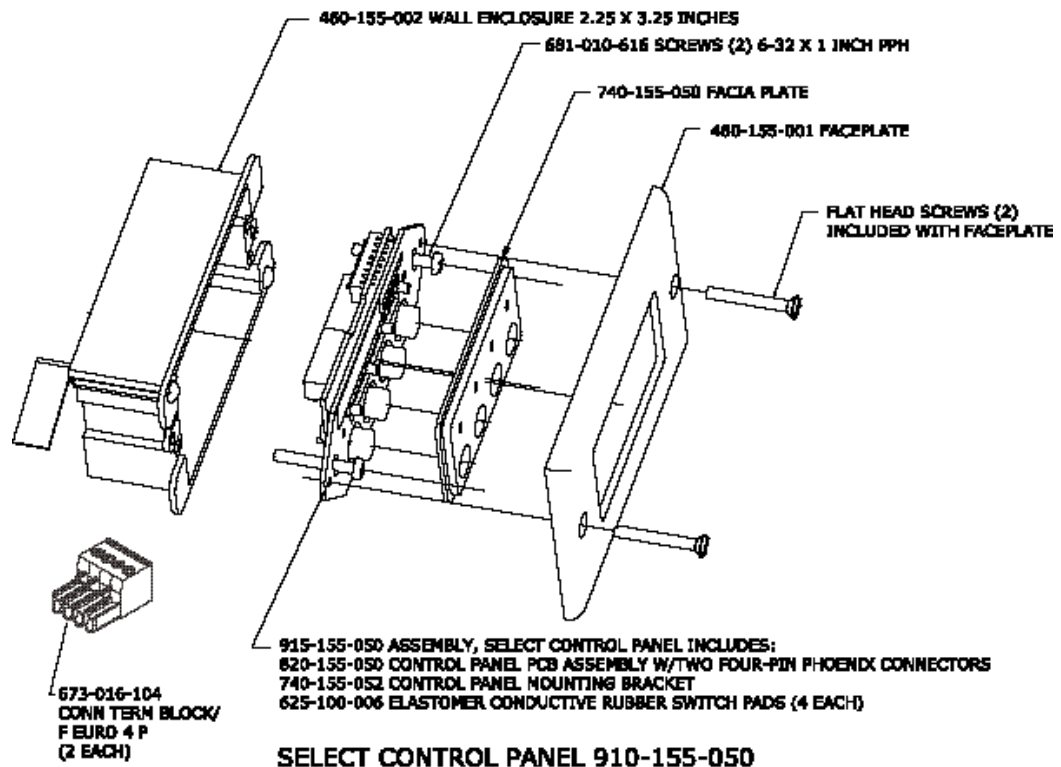

Figure C.5. Select Control Panel Assembly
1. Ensure you received a facia plate; a Control Panel assembly with mounting bracket and two RS-485 Phoenix four-pin connectors; two connector terminator blocks; a faceplate; two flat HD screws; two pan-head screws; and an electrical wall box (shown in Figures C.5 and C.6). If any parts are missing, please contact ClearOne.
- As shown in Figures C.5 and C.6, use the supplied pan-head screws to install the Control Panel PCB assembly to the electrical wall box.
- To install the facia plate, position it over the conductive rubber switch pads on the PCB assembly, as shown in Figures C.5 and C.6.